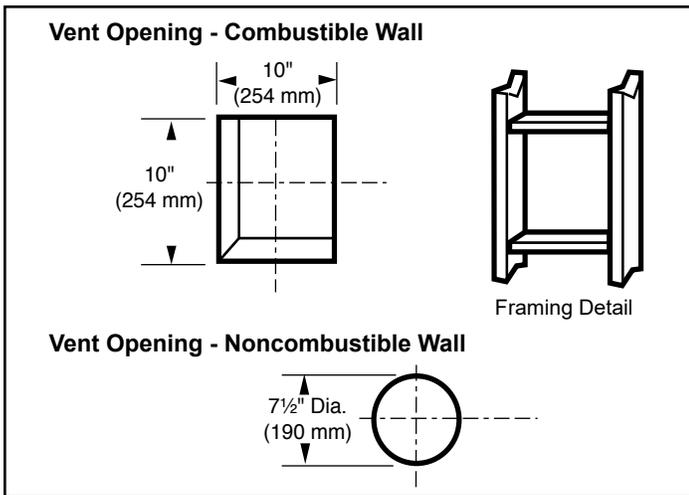

Figure 3.10 - Locate vent opening. NOTE: Zero clearance sleeve is required for combustible wall installations.
1. Locate vent opening on the wall. It may be necessary to first position the stove and measure to obtain hole location. Depending on whether the wall is combustible or noncombustible, cut opening to size, Figure 3.10 (For combustible walls first frame in opening.)